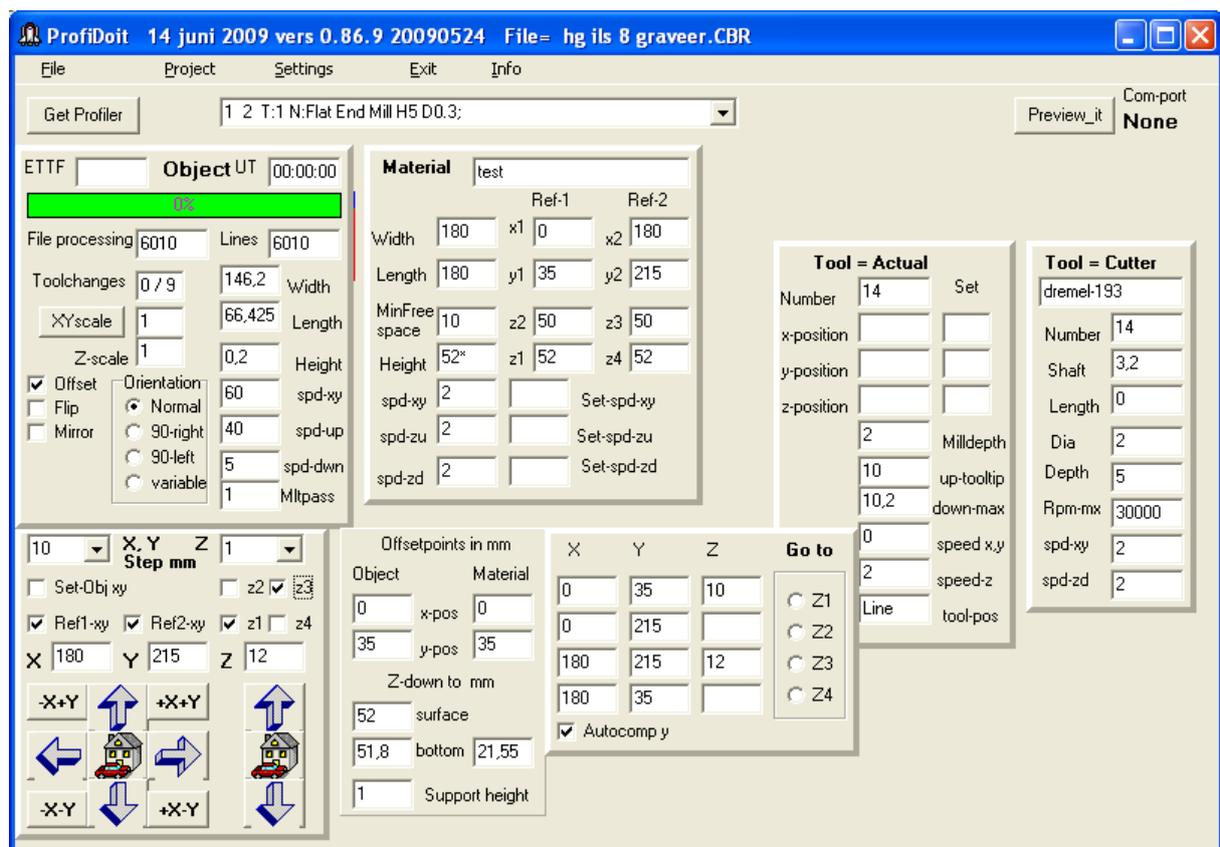

Fig.3.1.6 Material dimensions and offsets. (f6-090614)
- 8. Fig. 3.1.6 Material dimensions and offsets.
3.1 Main screen (Fig 3.1.6.).
The material data block (Fig. 3.1.6).